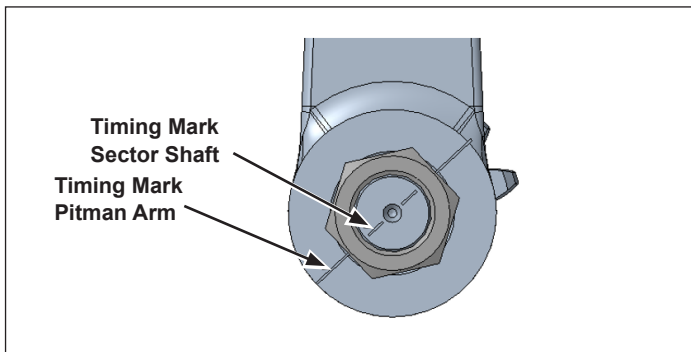

Figure 5 - Installing the Pitman Arm
3. Install the pitman arm on the steering gear sector shaft. Make sure that the timing mark on the steering gear sector shaft and the pitman arm align (See Figure 5).